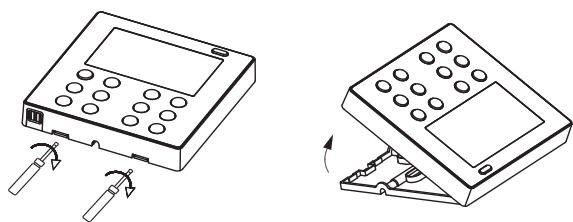

Fig. 2 — Opening Back Mounting Plate
5. Insert a flat-head screwdriver into the slots provided on the bottom of the controller to pop open the back mounting plate. See Fig. 2.